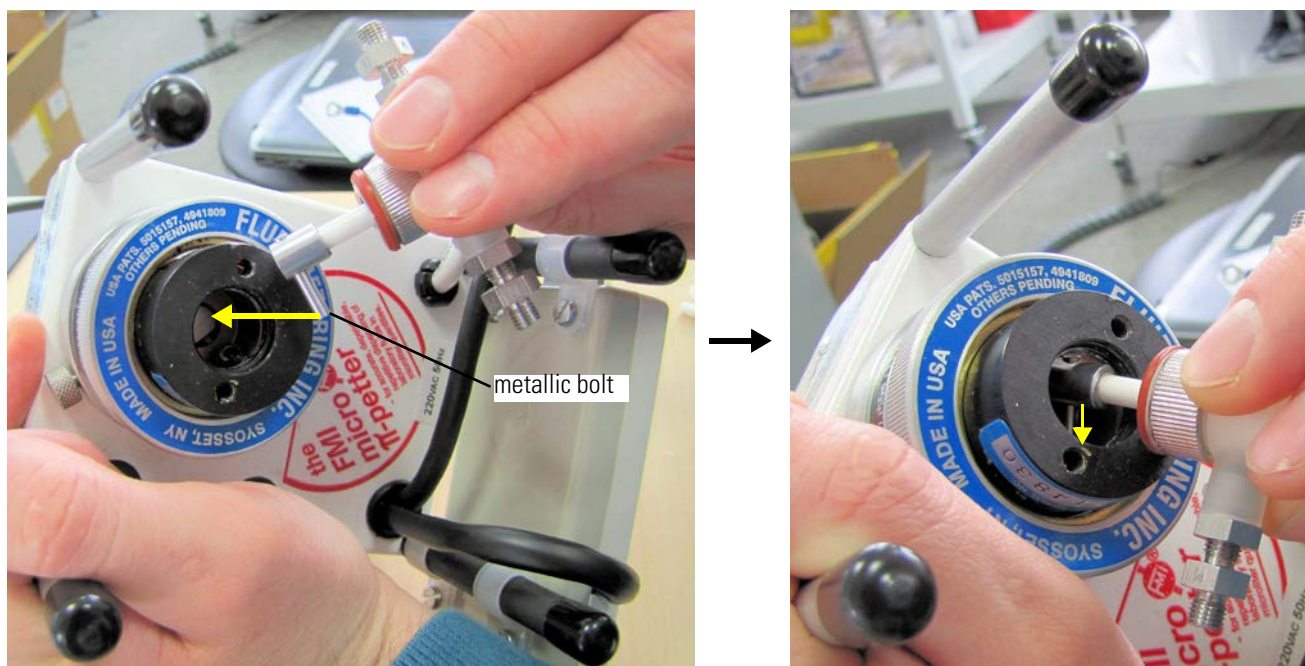

Figure 9-33. Sliding bolt of plunger into lateral opening inside acid pump
12. As shown by the arrows in Figure 9-33:
- a. Insert the metallic part of the plunger into the opening of the acid pump. See Figure 9-33, left.
- b. Let the metallic bolt of the plunger carefully slide into the lateral opening inside the acid pump. See Figure 9-33, right.